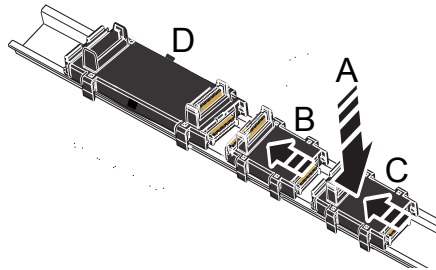

Fig. 10-8: Connect S20 bus base modules among each other and with the control bus base module
2. Mount the S20 bus base module as shown in fig. 10-8 "Connect S20 bus base modules among each other and with the control bus base module" on page 21.